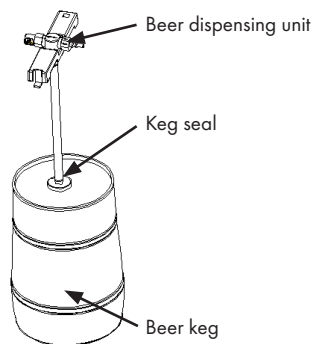

Figure 5
2. Uprightly direct the piercing pin against the sealant on the upper center of the keg (maybe you need to tear off the marking ring or change a proper sealant), press the piercing pin/keg lifter to poke the sealant and then push the piercing pin all the way into the keg. To assemble the tap mechanism until you hear a "Ka" sound that will indicate the tap mechanism fixes on the beer keg (shown as figure 5).